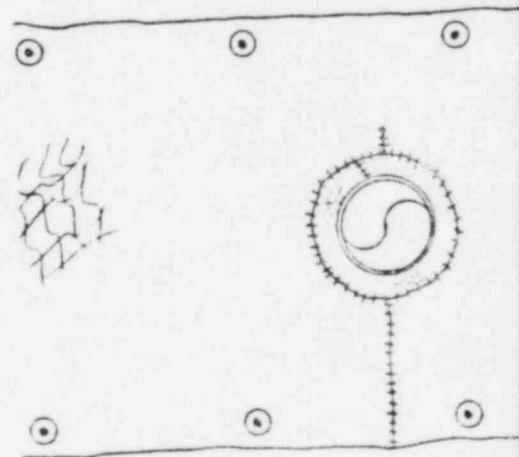

FIGURE 4
6.1.6 A slightly larger section of Siltemp shall be placed over ceramic blanket and sewn top, sides and bottom to tightly seal the blanket system. (See Figure 4). Stitches shall be no more than 1/2" apart.